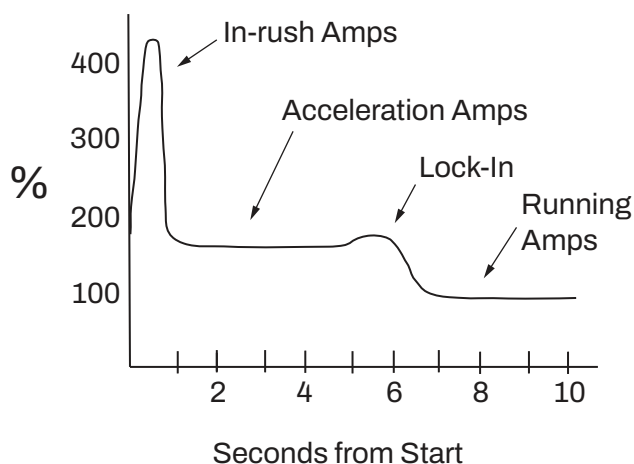

Figure 2 - Flow Charge Graph
4. Push start button. Observe motor current during load acceleration and number of seconds required to reach full speed (Fig. 2).